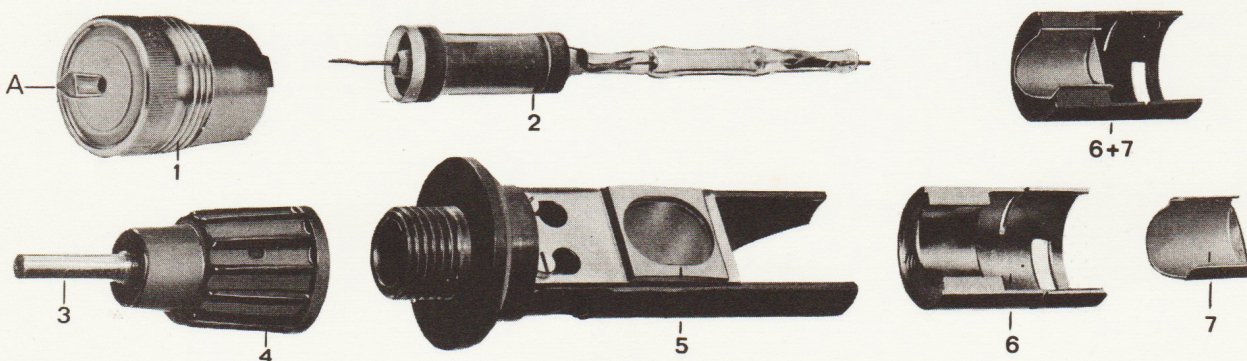

Fig. 5
#### SPP LAMP (fig. 5)
- . Push packing bush 2 over the stamped end of the lamp as indicated in fig. 5 until the glass rod protrudes about  $\frac{3}{16}$ " (5 mm).
### SPP LAMP (fig. 5)